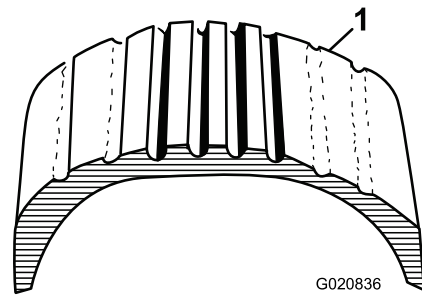
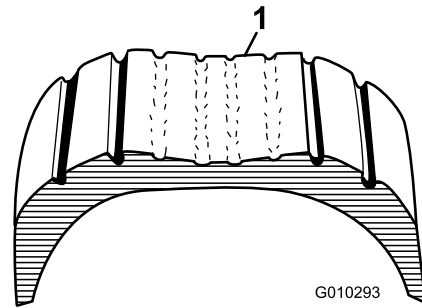

Figure 58
Figure 59
1. Visually inspect the tires for damage and wear (Figure 58 and Figure 59).